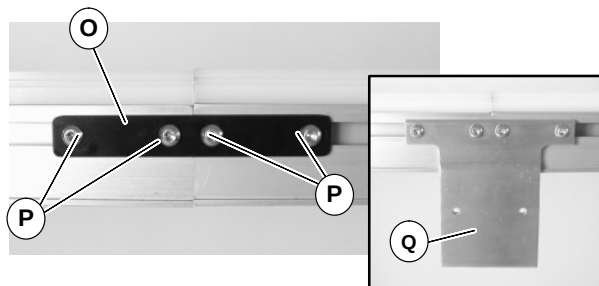

Figure 6
2. Join conveyor sections and install connector brackets (O of Figure 6) or connector/mount brackets (Q) and screws (P) on both sides as indicated.
4. Tighten screw (P of Figure 6) to 60in-lb (7 N-m) on both sides of conveyor.